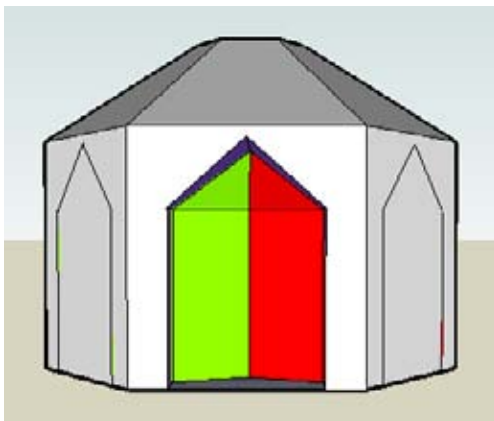

Figure 3-24
12. Erase one of the front peak faces, and this time you can see portions of the cutting groups running through the building (Figure 3-24).